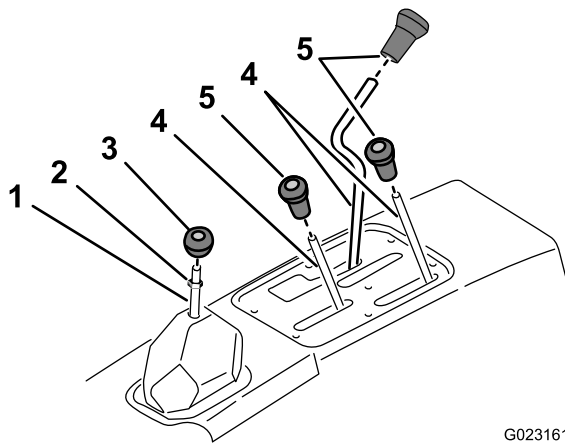

Figure 6
2. Unscrew and remove all knobs from console levers and from the gear shift lever (Figure 6).
3. Remove the jam nut from the gear shift lever (Figure 6).